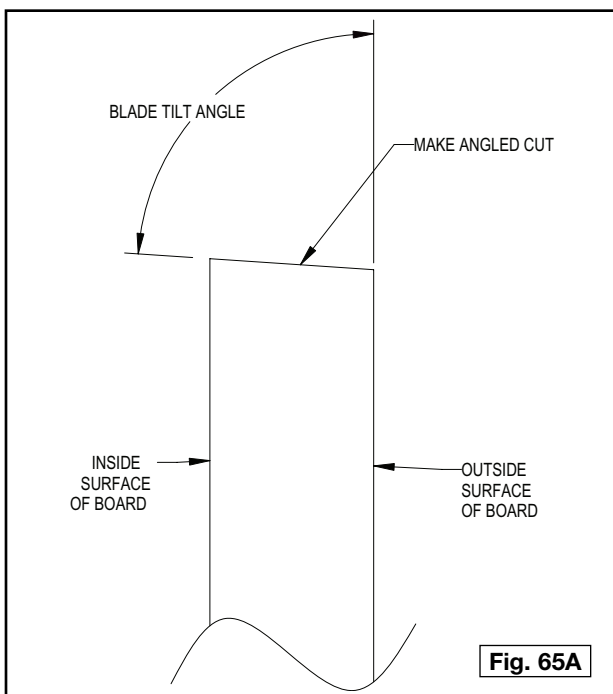

Fig. 65A
- Step 1** - Cut the end of the tail board according to the drawing (Fig. 65A). Set the miter gauge and tilt the blade to the values in the previous table. Remember that the miter gauge for the tailboard must be tilted opposite for the pin board.